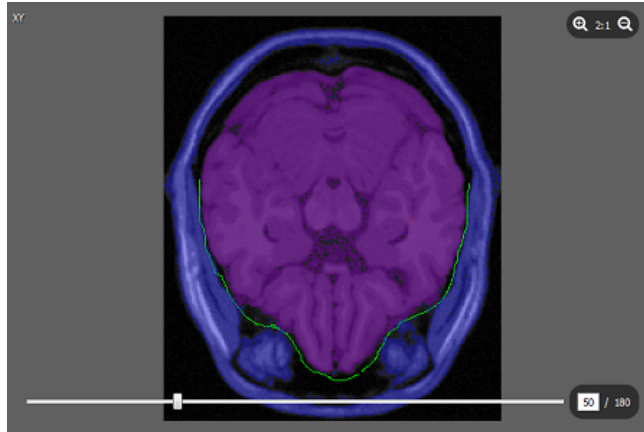

Figure 17.5: To prevent the Magic Wand tool to select non-brain voxels draw limit lines as shown in this Figure
- Proceed to slice 50. Here you will note that the selection "bleeds out" (selects non-brain voxels). Use the *Draw limit line* tool (shortcut 'l') and draw lines similar as shown in Fig. 17.5. Also here, use 'f' to fill and Ctrl+m to smooth.